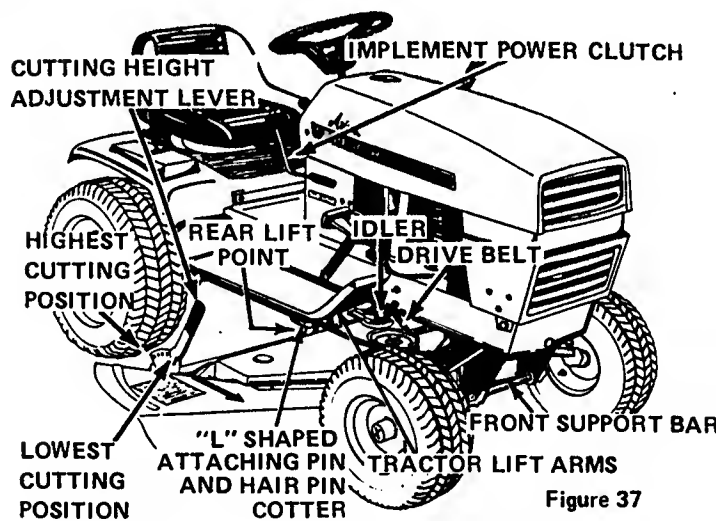

Figure 37
3. Place cutting height adjustment lever in the second lowest cutting position, see Figure 37.
5. Place the drive belt over the rear lift point and lower the attachment lift lever. Align ball joint of rear lift point to tractor lift arms and secure with the "L" shape attaching pin and hairpin cotter provided, Figure 37.
6. Position drive belt over the drive and driven sheaves and place idler to the inside of the belt as shown in Figure 37.
1. Move cutting height adjustment lever, Figure 37, to one of the six positions available to obtain the desired height of cut.
3. Place cutting height adjustment lever, Figure 37, in the highest cutting position.
The cutting height is adjustable to any of six different positions by moving the cutting height adjustment lever shown in Figure 37. Raise the lever to decrease cutting height. Lower the lever to increase cutting height.